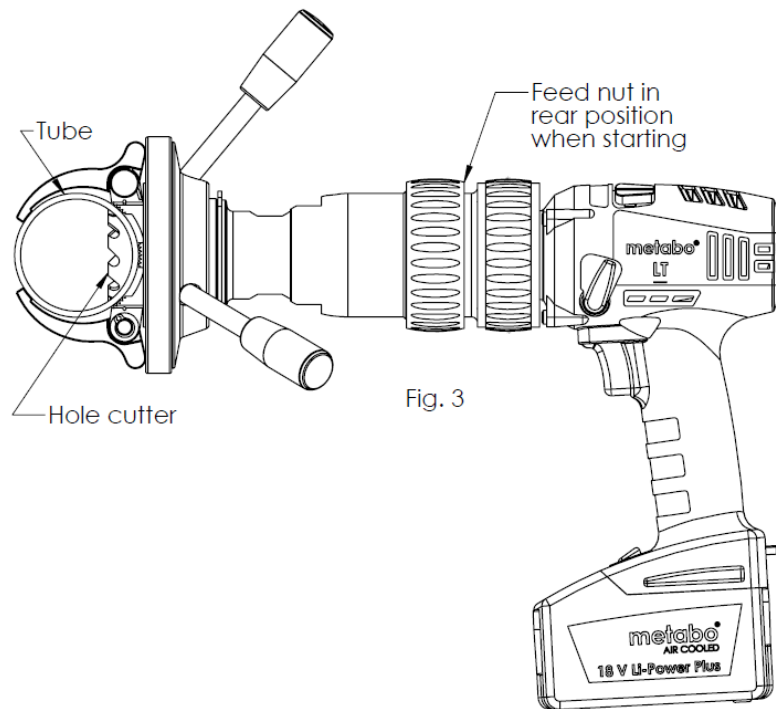

Fig. 3
3. Referring to fig. 3, check that the feed nut is in the rear position before start. Lubrication directly in the hole saw ahead of drilling is recommended. Use the battery drills "drilling mode" (drill symbol) on the torque switch. Use battery drill gear stage 1. Start the battery drill clockwise pushing the button fully down to achieve full torque. Gently rotate the feed nut outwards to engage the clutch. The hole cutter will now move outwards and cut the hole in the tube. Drill continuously, until the hole saw is fully through the pipe.